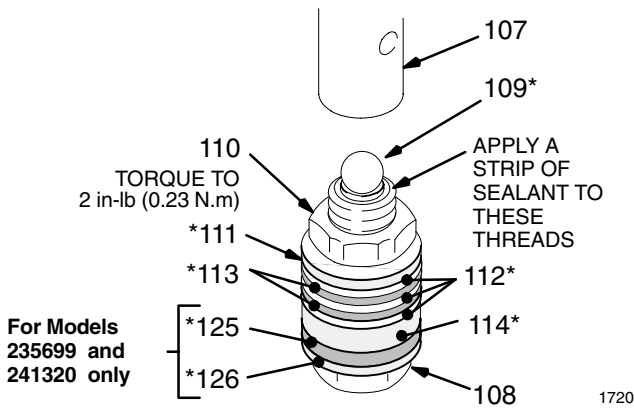

Fig 4
All Models: the female gland (114*), alternately three plastic (112*) with two leather packings (113*), and the male gland (111*). See Fig 4.
3. Tighten the nut (110) onto the piston valve (108) to 2 in-lb (0.23 N.m). See Fig 4.
5. Place the ball (109*) on the piston valve (108). See Fig 4.